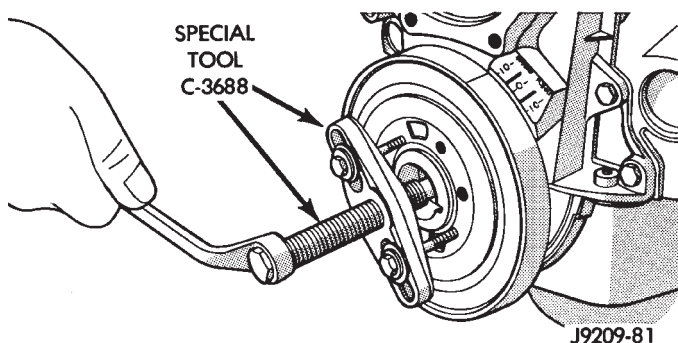

Fig. 21 Vibration Damper Assembly
(6) Remove vibration damper bolt and washer from end of crankshaft.
(7) Install bar and screw from Puller Tool Set C-3688. Install 2 bolts with washers through the puller tool and into the vibration damper (Fig. 21).